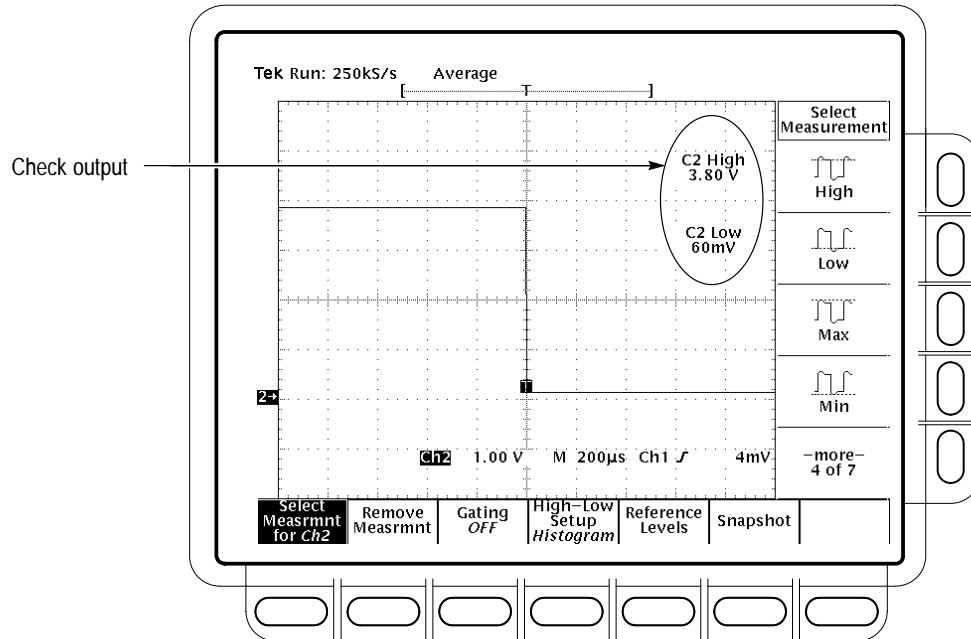

Figure 1–21: Measurement of main trigger out limits
- CHECK that the **Ch2 High** readout is  $\geq 2.5$  volts and that the **Ch2 Low** readout is  $\leq 0.7$  volts. See Figure 1–21.
- d. *Check Delayed Trigger output against limits:* See Figure 1–21.